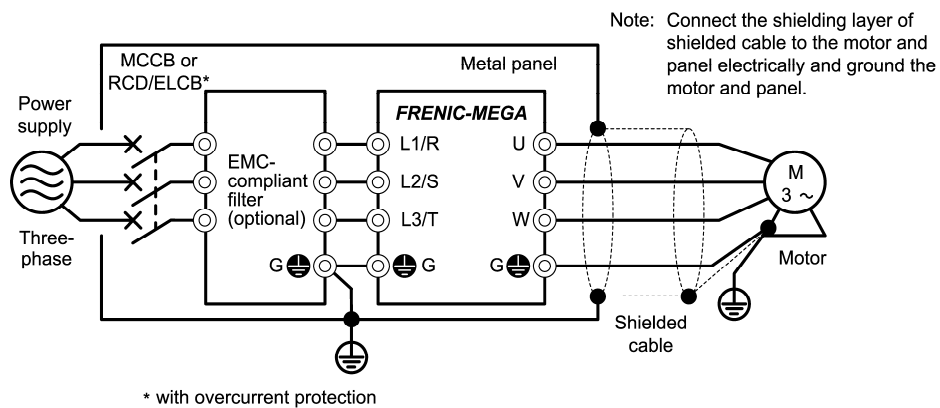

Figure 13.3-3 Installing the EMC Compliant Filter (option)
- 3) If the radiation noise exceeds the standards, install the inverter and peripheral equipment into a metal panel as shown in Figure 13.3-3.